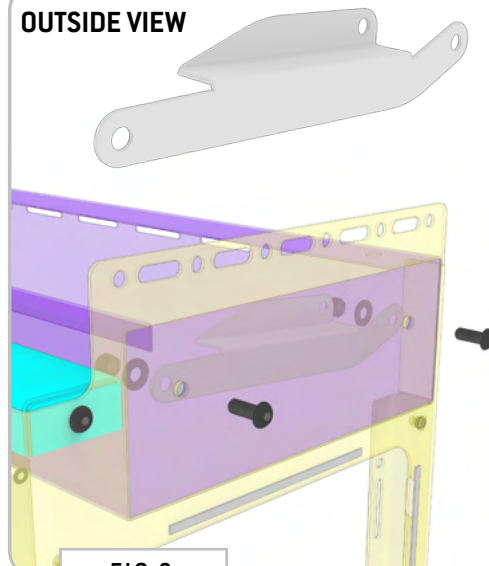
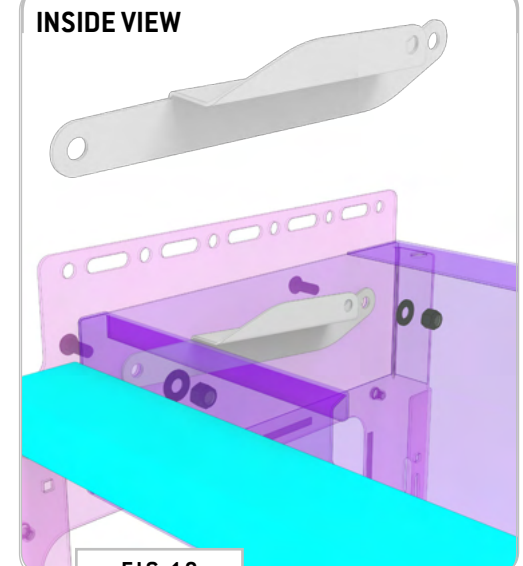

FIG 9
FIG 10
**2.3 Attach Top Tray and Strut Brackets:** Attach Top Tray and Strut Brackets to Left-Hand and Right-Hand Cab Ends using (4) 3/8-16 x 0.75 Button Head Screws, Flat Washers and Nylon Locknuts.
**NOTE -** The Strut Brackets are *directional*. See **FIG 9** for *right-side* and **FIG 10** for *left-side* orientation.